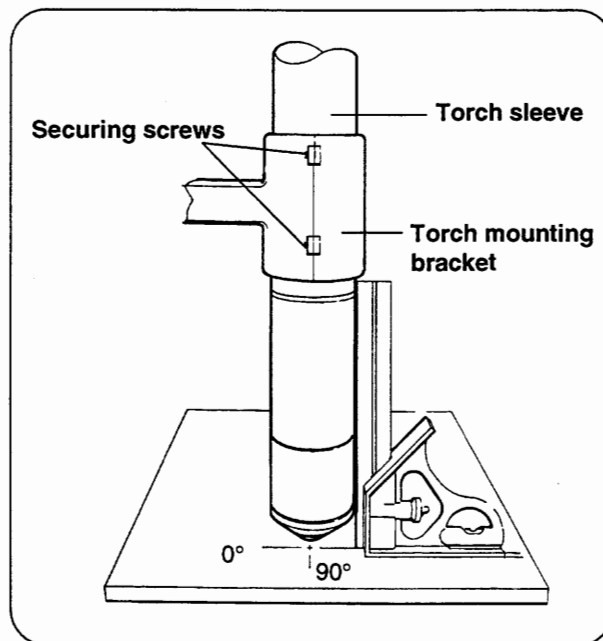

Figure 3-4 Torch Alignment
1. Loosen the securing screws and install the machine torch (with torch leads attached) in the torch mounting bracket. See Figure 3-4.
Prior to cutting with the machine torch, ensure that the torch is at right angles to the workpiece to get a clean, vertical cut. Use a square to align the torch. The torch should be aligned at 0° and 90°. See Figure 3-4.